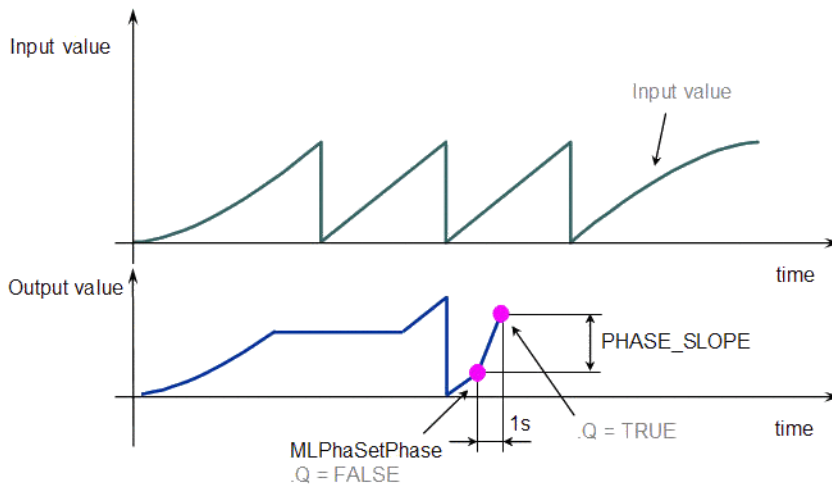

Figure 4-67: Changed Phase value
- Call "MLPhaWritePhase" (→ p. 442) function to modify the Phase value. (Figure 4-67)